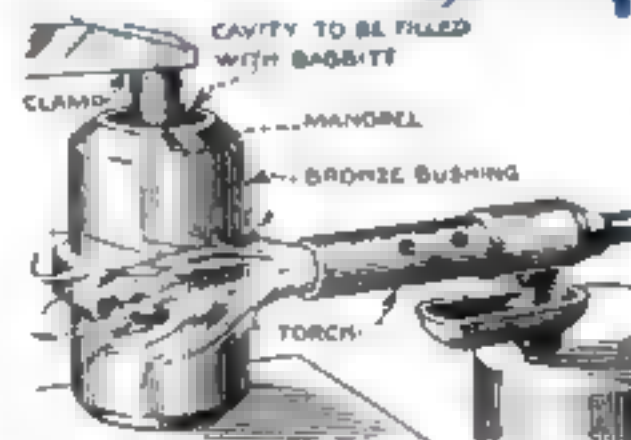

Fig. 6. Babbitting a worn-out bronze bushing
**F**OR the purpose of assembling quickly a large number of cap screws, the special screwdriver bit shown in Fig. 6